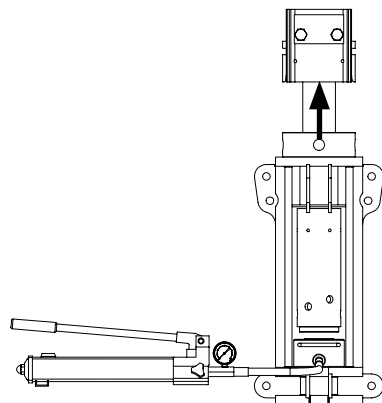

Fig. 23
7. Open drain valve and drain the hydraulic cylinder. (Fig. 23)